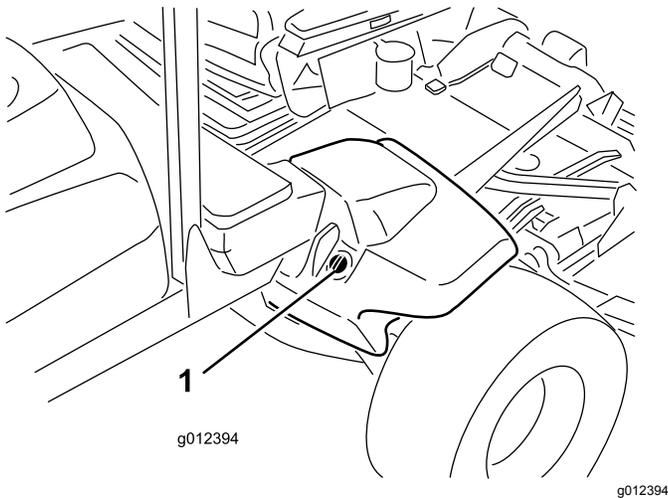

Figure 16
2. Clean the area around the filler neck and cap of the hydraulic tank (Figure 16). Remove the cap from the filler neck.